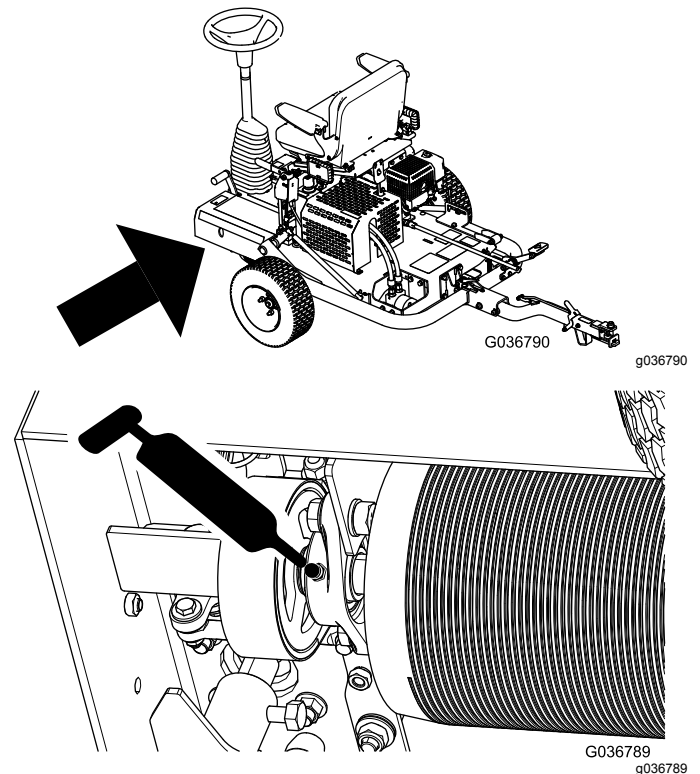

Figure 29
2. Pump grease into the grease fitting as shown in Figure 29.